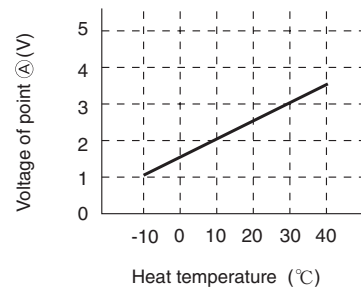

Fig. 9-2
- (1) Preheating
- (2) Low-temperature defrosts at cooling and dehumidification operation time.
- (3) Not working of reversing valve or detection of opening of heat exchanger thermistor is controlled.
According to heat exchanger temperature, the voltage of point(A) becomes as it is shown in Fig. 9-2.